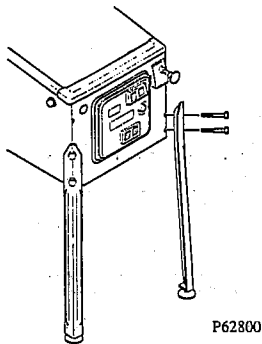

FIGURE 7: INSTALLING LEGS ON CABINET
9) Carefully lift the front of the cabinet and place on a sturdy support. Attach the front legs using two acorn-head bolts. Tighten bolts firmly (see Figure 7).